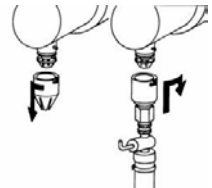

fig. 29
- Change the Garnishing Nozzle of the Machine by the connector of the Garnishing Pistol (fig. 29).